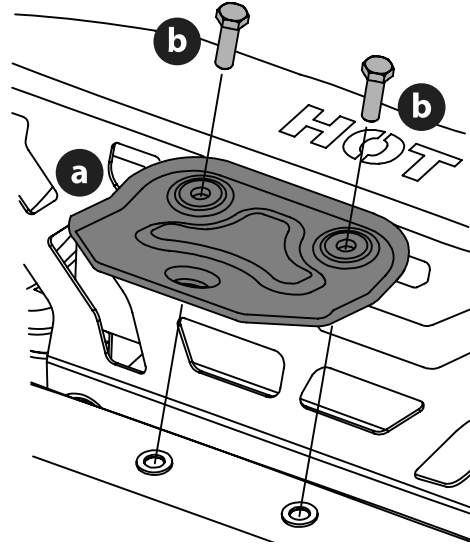

Figure 3
1. Locate hitch (a) and install on the rear of the frame using the two hex washer screws (b) provided (Figure 3).